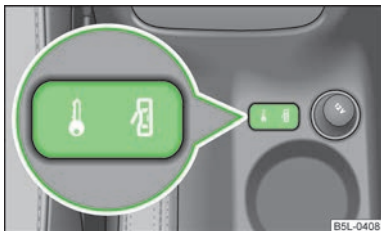

Fig. 12
If the vehicle was not locked from the outside, you can also unlock and lock it with the rocker switch » Fig. 12 without the ignition switched on.
- › Press the button in the area **[A]** » Fig. 12. The symbol **[A]** in the button comes on.
- › Press the button in the area **[B]** » Fig. 12. The symbol **[A]** in the button is no longer illuminated.